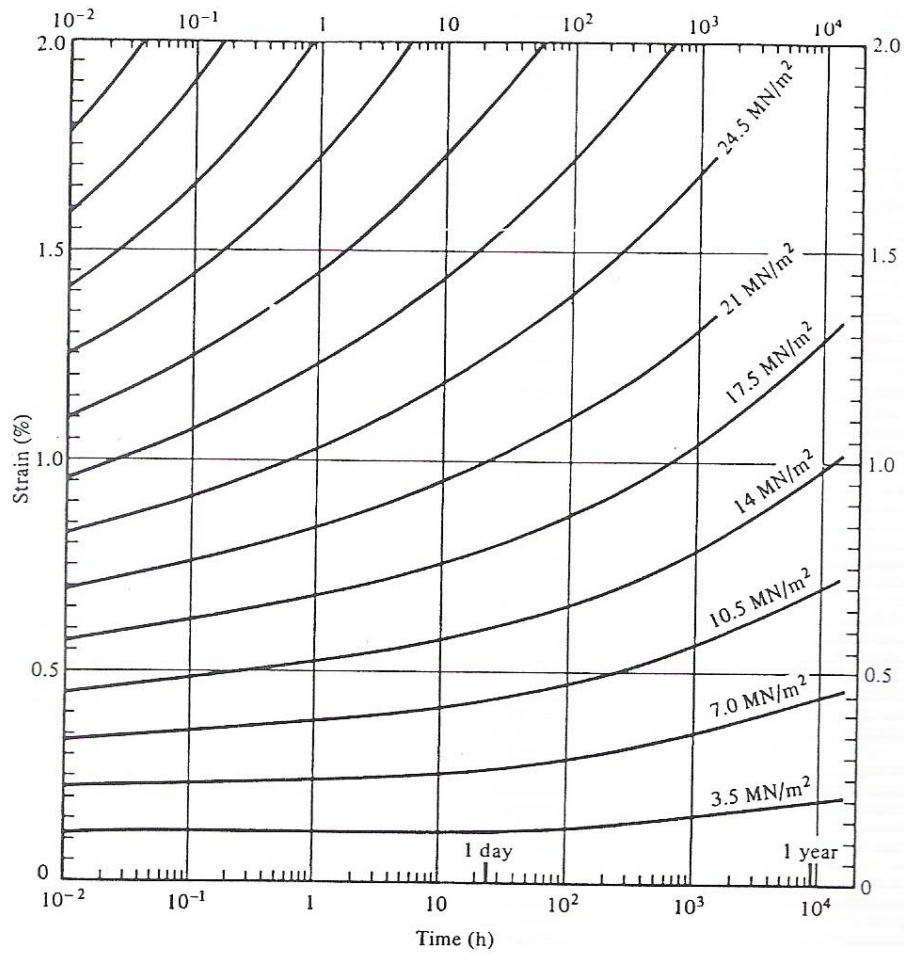

Figure 6: Creep curves in tension of cast acrylic sheet: 20°C and 65% relative humidity
- [c] Creep phenomenon is a common behaviour for visco-elastic polymer. The creep data can be presented as isochronous curves, isometric curve and creep modulus. Using the data from creep curves in tension from Figure 6, sketch the curves for representation of creep data and how can it be used to predict the life time of polymers.